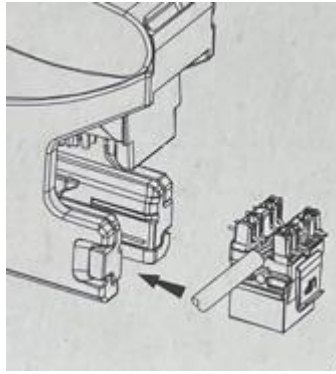

Fig.8
3.7 Place jack into the base of C6A UTP JACK KEYSTONE 4 Pair Termination Tool. Fig.8